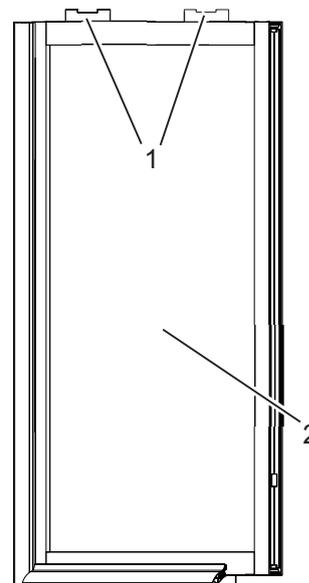

Fig. 106 Wing transport securing devices
1. Remove the transport securing devices (Fig. 106/1) on the lower and upper edge of the wing (Fig. 106/2).